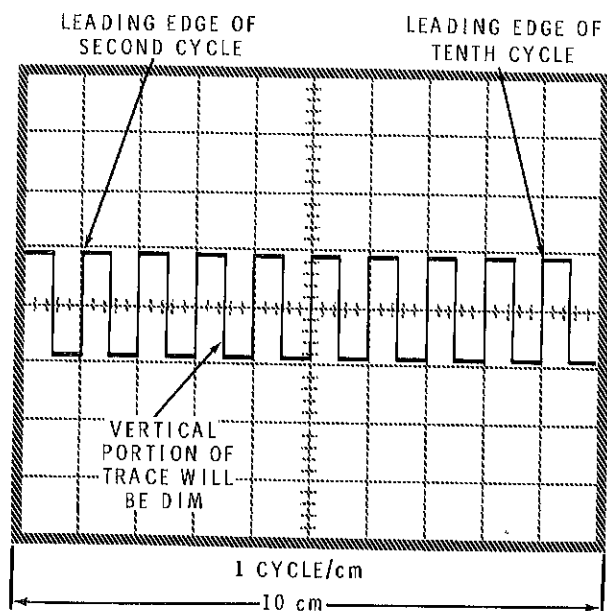

Figure 14
4. Carefully adjust the X CAL control (R266, on the horizontal circuit board) and the HORIZ POS control for exactly 10 cycles in 10 centimeters (1 cycle per centimeter) as shown in Figure 14. Use the leading edge of the second and tenth cycle for this adjustment. The first cycle may be distorted.
14. Refer to Figure 13 (Illustration Booklet, Page 3) and carefully readjust the X CAL control (R268, on the horizontal circuit board) and the HORIZ POS control for exactly 10 cycles in 10 centimeters (1 cycle per centimeter) as shown in Figure 14. Use the leading edge of the second and tenth cycle for this adjustment.